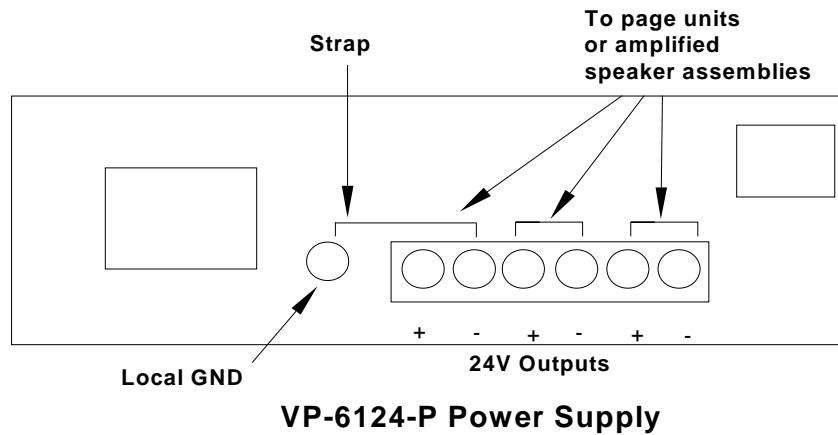

Figure 1
- Connections to Valcom page control units are shown in Figure 1.